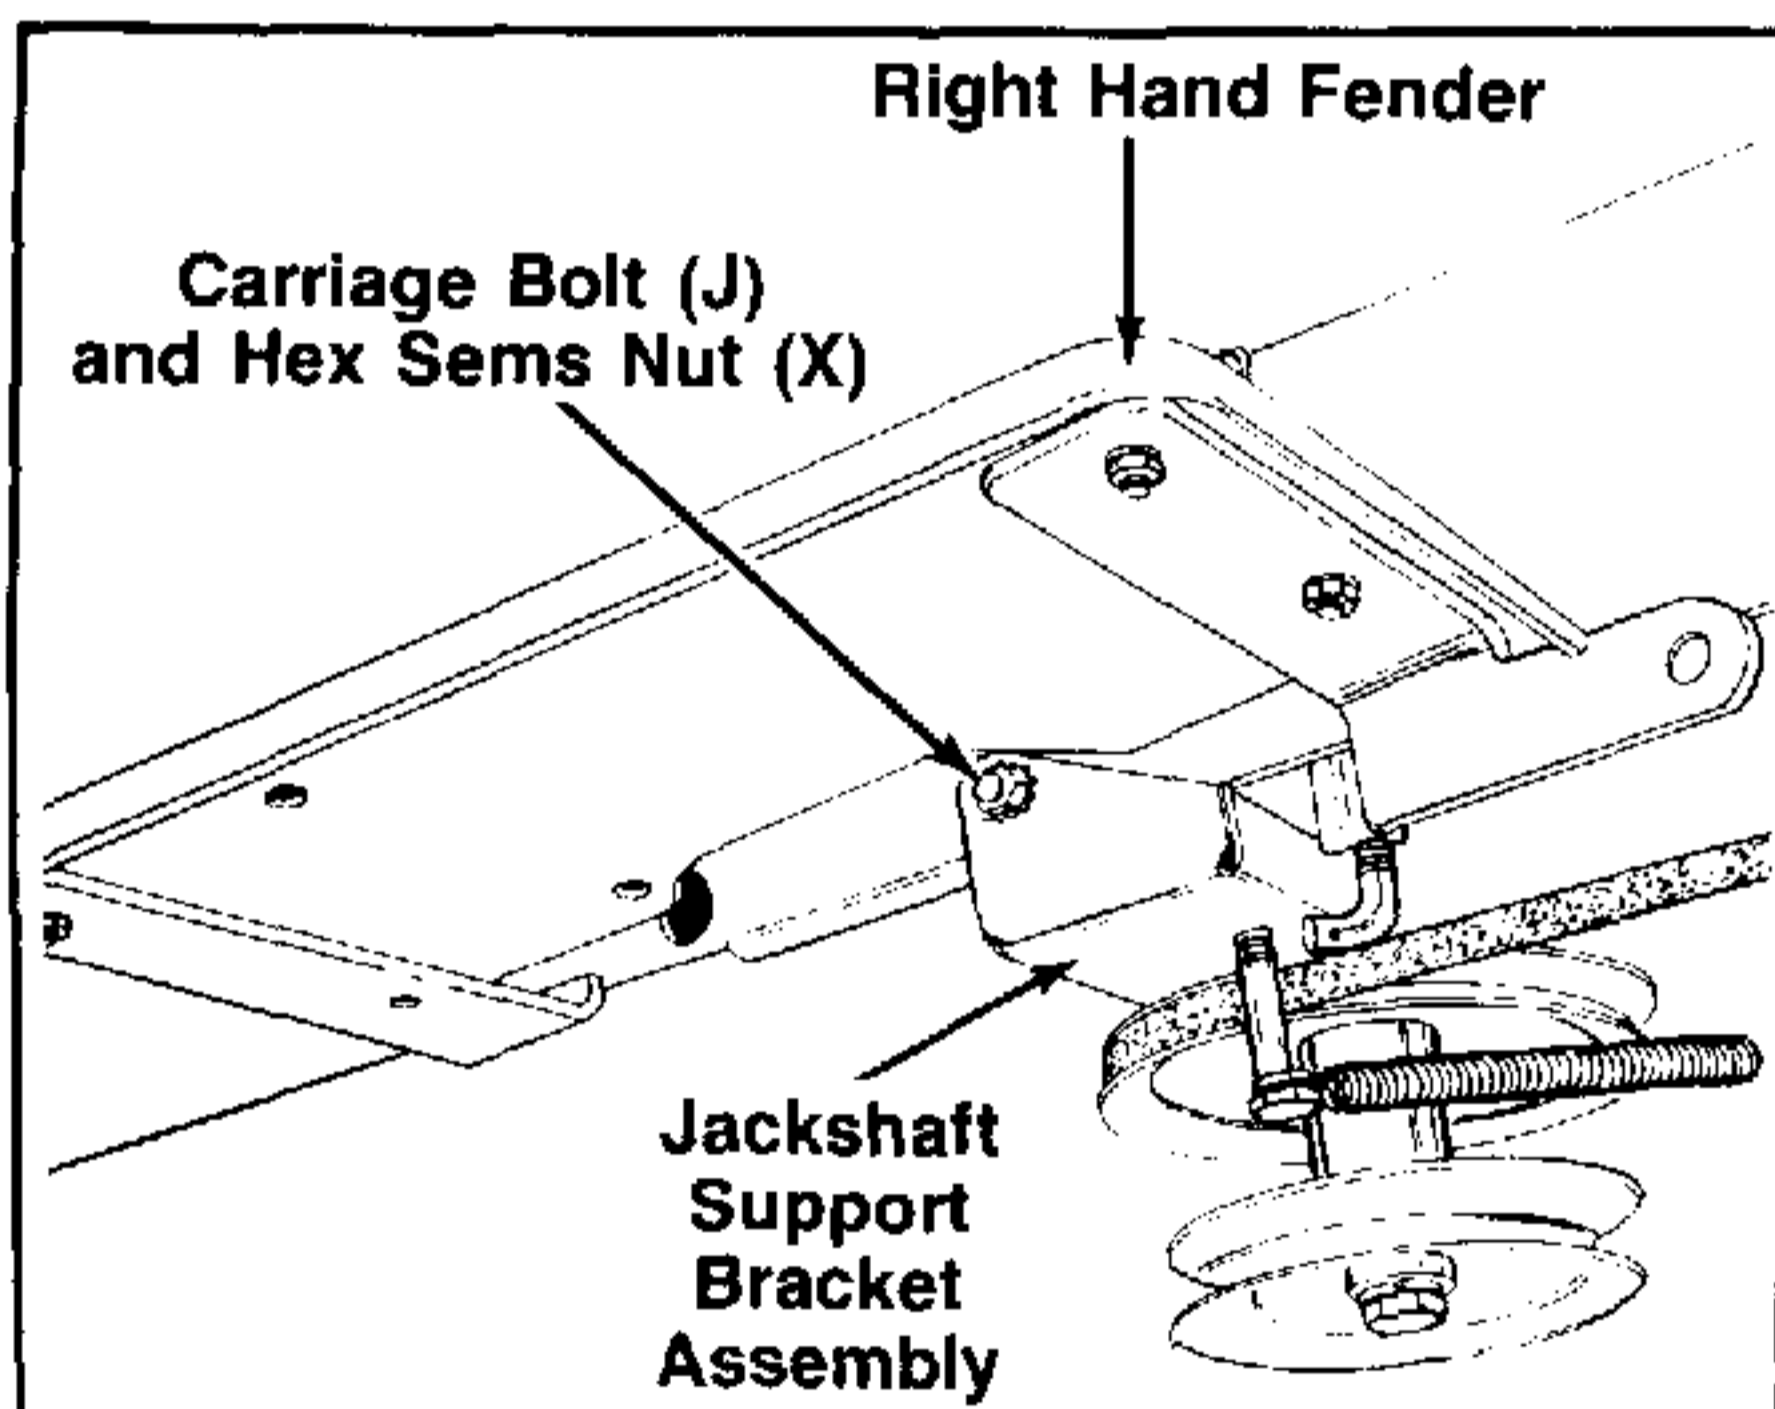

FIGURE 2.
c. Secure the jackshaft support bracket assembly on the right hand side of tractor, using carriage bolt (J) and hex sems nut (X). See figure 2.